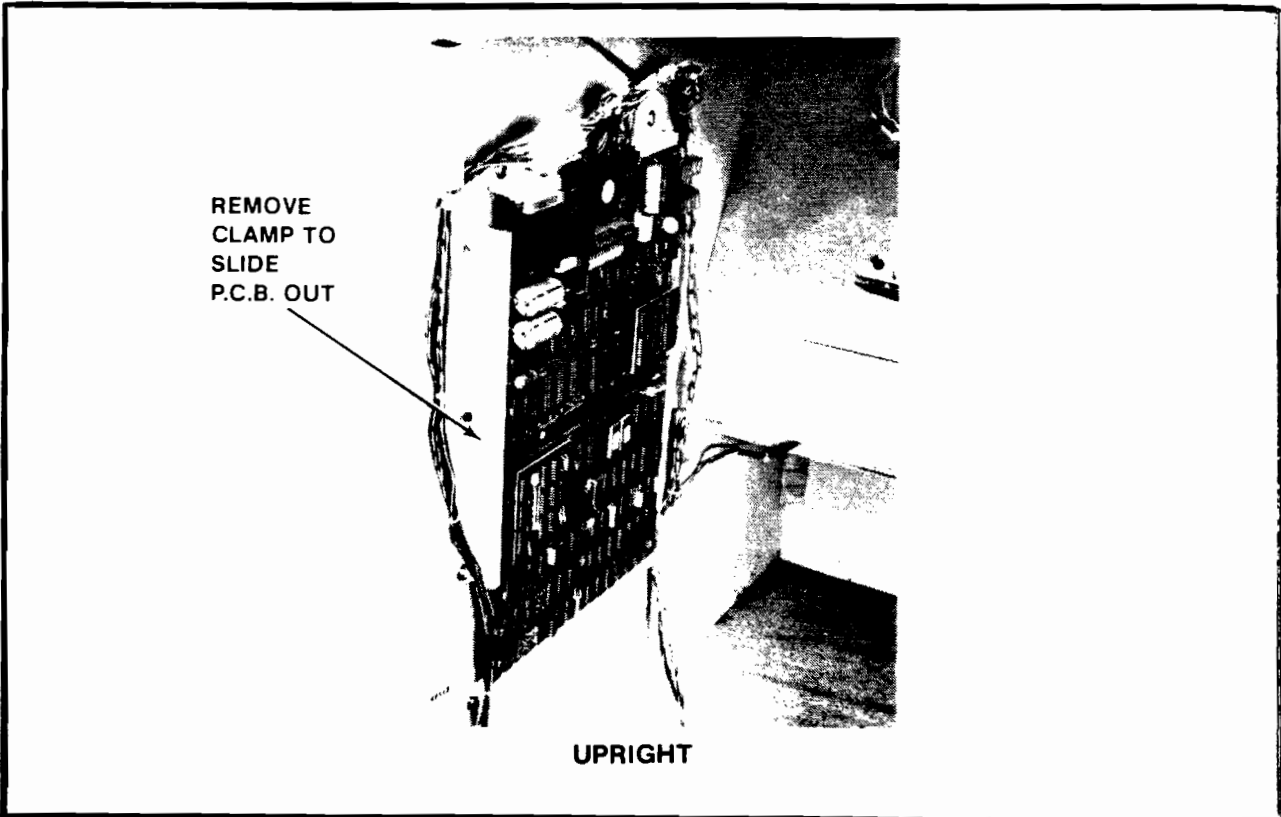

Figure 2
- Remove the P.C.B. clamp indicated in Figure 2 and slide the Main Game Logic Board out of the cabinet.